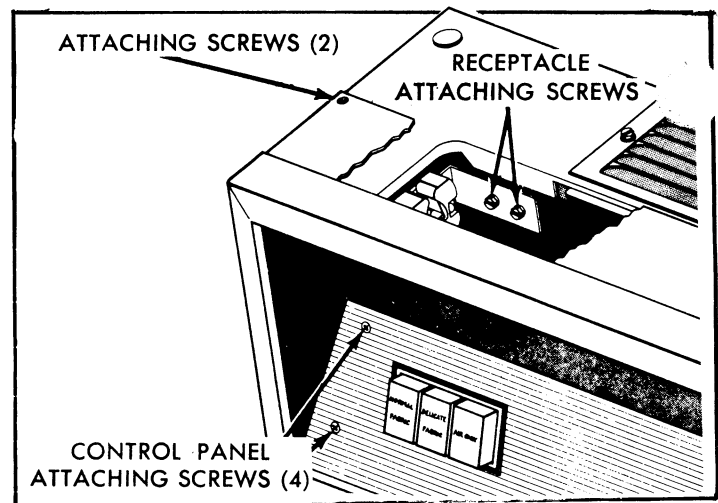

Figure 30
4. Remove the four screws holding the control panel trim to support plate. Remove trim from panel assembly, Figure 30.